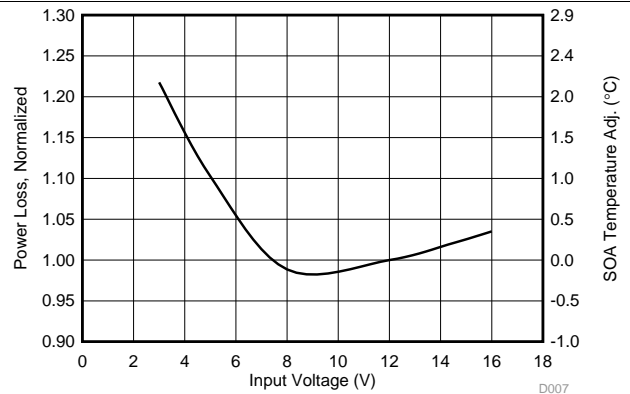

图 5. Normalized Power Loss vs Input Voltage
- Normalized power loss for input voltage ≈ 1.1 (图 5)